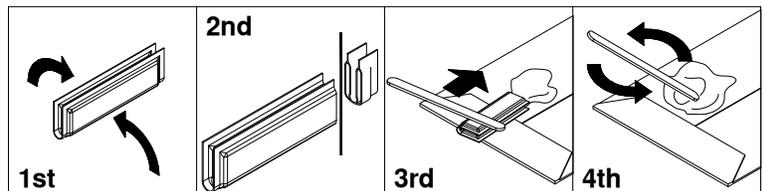

Figure A2: Epoxy preparation steps.
4. **Seal edge of 4" hole.** Due to the composite construction of the bed, painting the edge of the hole with epoxy will restore the sealed surface finish and cover exposed fibers. Before beginning, place a piece of paper or cardboard under the hole to catch any drips. Put on appropriate protective clothing and equipment. Locate the epoxy kit envelope included in the center kit box. Retrieve one of the epoxy packets. Fold the two parts of the packet together and cut one end. Squeeze the contents together onto the kit envelope and use a stirring stick to mix the liquids together, as shown in Figure A2. Using the provided paint brush, paint the cut edge of the 4" hole until completely covered. Once the epoxy is packet is open, it should be mixed and applied within 3 minutes.